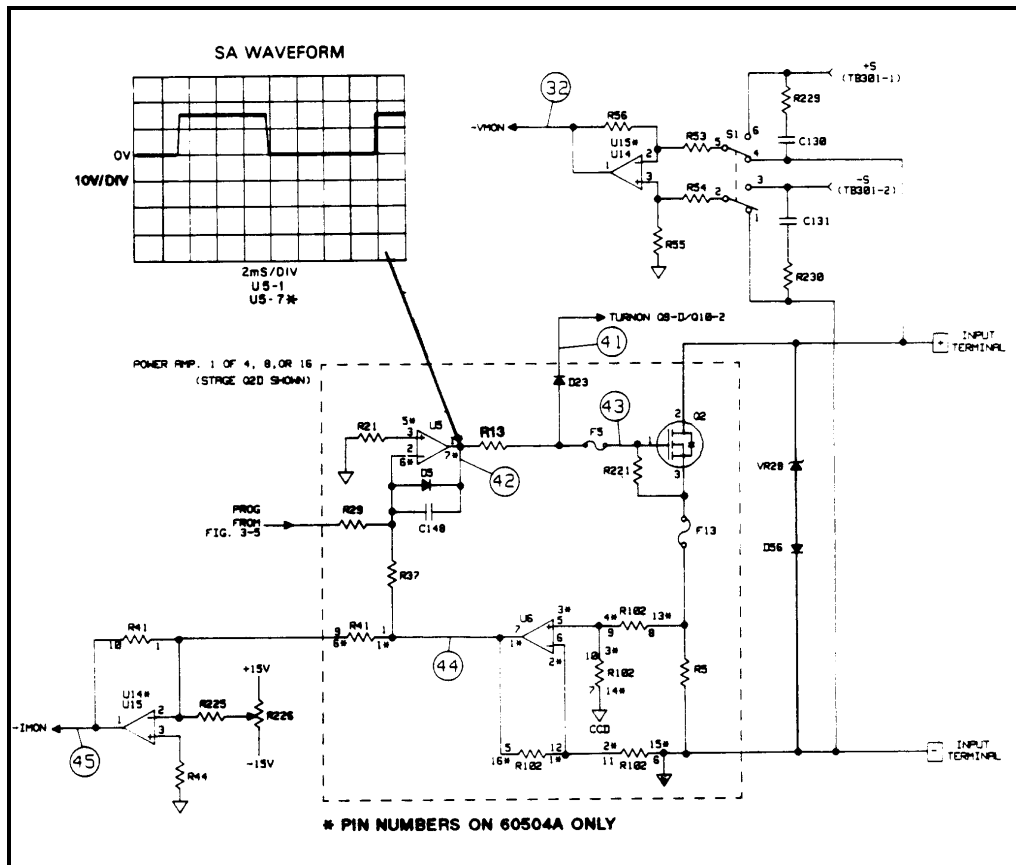

Figure 3-6. Input Power Stages Troubleshooting
Input Power Stages Troubleshooting (Figure 3-6)
There are four, eight or sixteen identical input power stages (depending on the module) connected in parallel Figure 3-6 shows one, which consists primarily of a power FET (in quad array Q2), a monitor amplifier (U6) and an error amplifier (U5). Schematic details are shown in the corresponding module Power Board schematics.
To troubleshoot the input power circuits, place the Electronic Load in the SA mode by connecting the jumpers in test headers TP201 and TP301 in the SA mode positions (see Figure 3-2). The waveform shown in Figure 3-6 at the output of the error amplifier can only be generated in the SA mode. Check that this waveform appears at the output of the error amplifier in each input power stage. Refer to the Power Board schematic to locate the output pin of each error amplifier. Checking each stage may isolate the problem to a specific stage.
If the problem is isolated to a specific stage, turn the SA mode off (remove jumpers) and check the test points (41) through (44) that correspond with applicable circuit points in the defective stage. Use the measurement conditions specified in Table 3-3. Also, check the applicable fuses in the specific stage. As shown in Figure 3-6, fuses F5 and F13 are used by stage Q2D.